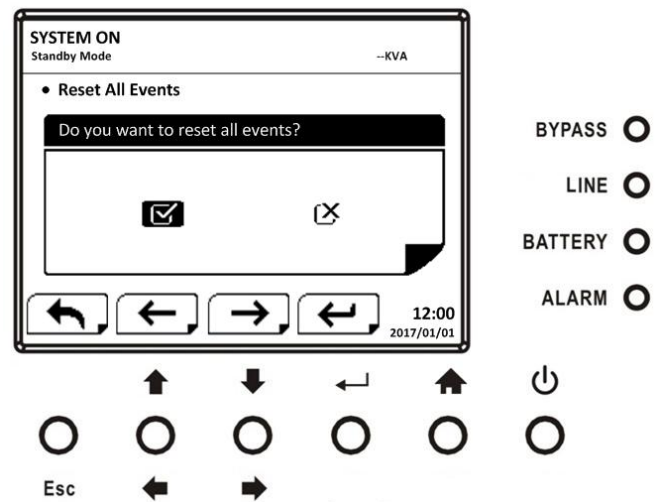

Figure 4-39 Reset All Events Confirmation screen
Then, use "←" or "→" buttons to choose "V" (YES) or "X" (NO). Choose "V" and press "↵" button to reset all events or choose "X" to cancel this action as shown in Figure 4-39.